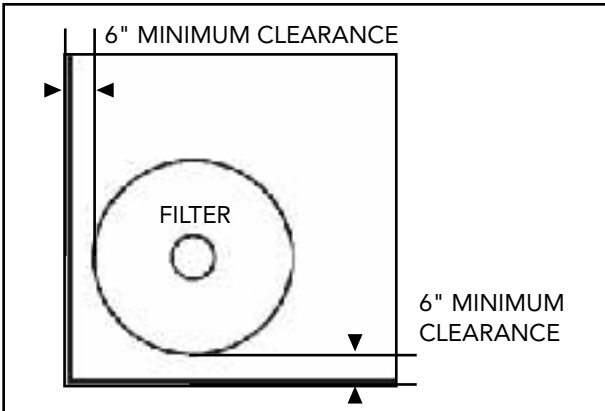

Figure 3- Filter Location
3. Install electrical controls at least five (5) feet from the filter. This will allow enough room to stand away from the filter during start-up.
4. Allow sufficient clearance around the filter to permit a visual inspection of the clamp ring (see Fig. 3).